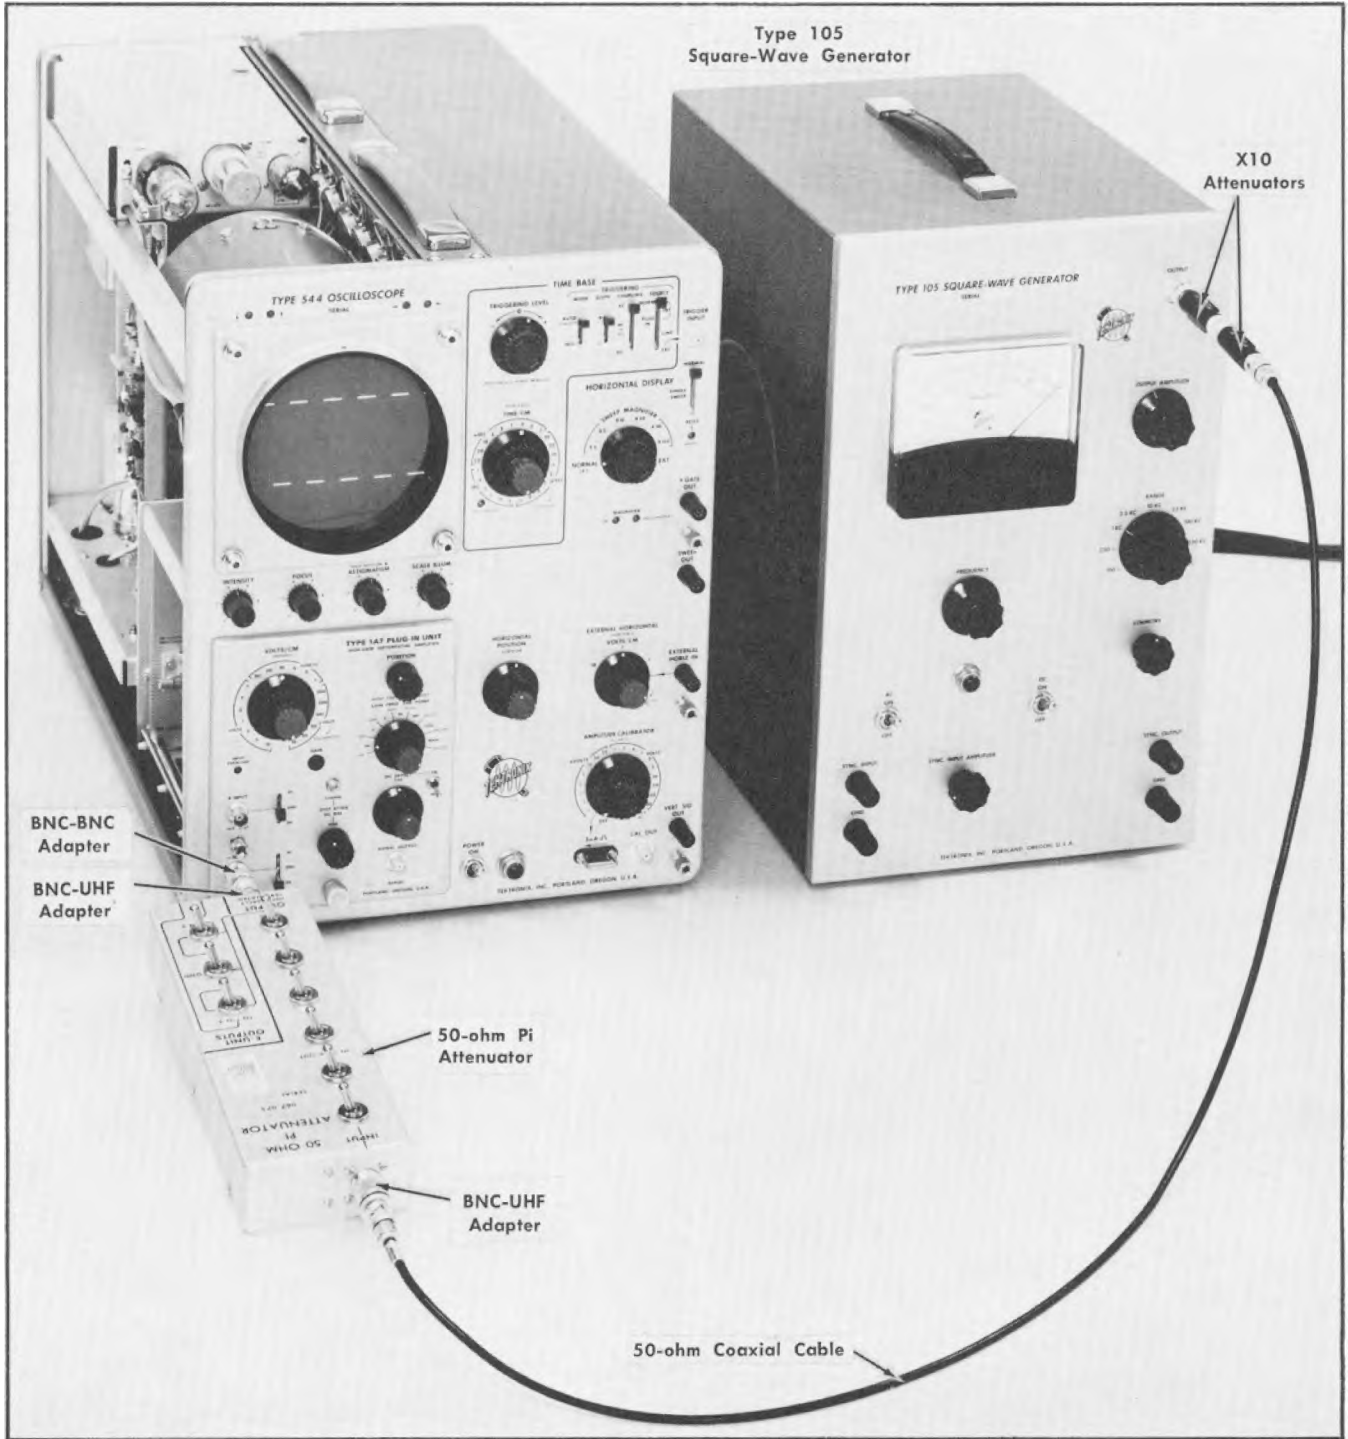

Fig. 6-22. Setup at completion of step 15c.
b. Apply a 1-kHz signal from the Type 105 through two 10X attenuators, coaxial cable, BNC-UHF adapter (item 12), 50-ohm Pi attenuator (item 11), BNC-UHF adapter (item 12), and a BNC-BNC adapter (item 13) to the —INPUT connector. Connect all devices in the order given. Fig. 6-22 shows the test setup.